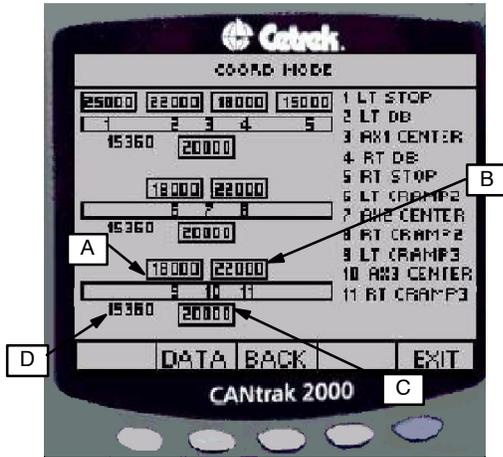

Figure 12. Encoder Value Screen Showing Axle 3 Information
2.1.14 Axle 3 Values (see Figure 12)